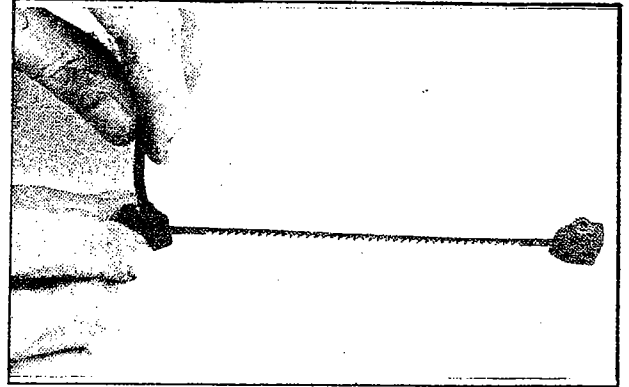

FIGURE 3
1. Insert blade into the two blade holders, then tighten the two Hex. Screws with an Allen wrench as shown in Figure 3.